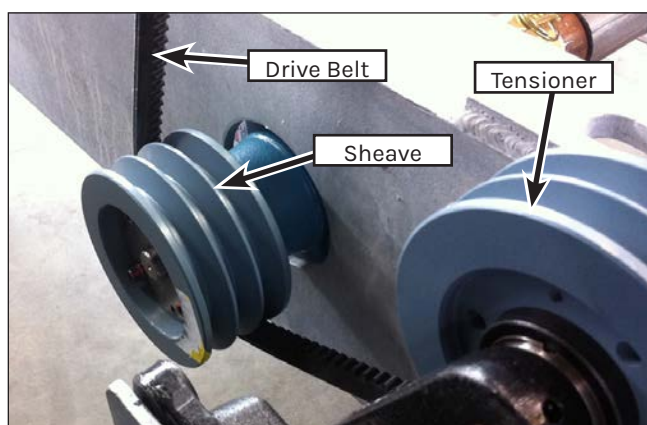

Figure 143: Charge Pump Drive.
5. Remove the charge pump drive belt (Figure 143) by releasing the belt tension using the spring loaded tensioner.
2. Place the sheave bushing in place and install the set screw. Install the sheave onto the bushing. Check for proper belt alignment (Figure 143).